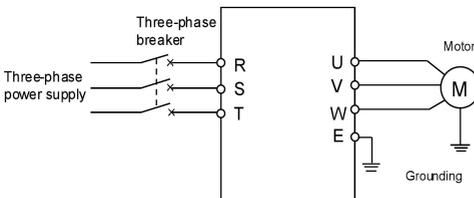

Figure 5-4 SVC Running Wiring
1. Wiring as shown in Figure 5-4;